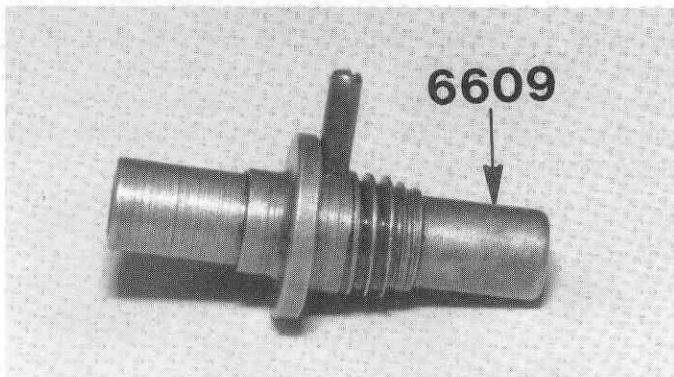

Fig. 27
□ **Fig. 27** In the #6-12 bag, take out the #6609 drive gear pivot. Also in the #6-12 bag is a small bag with screws. In this bag is a small split roll pin. This pin goes into the hole in the pivot as shown. Use a needle nose pliers to hold the pin and lightly tap it into the hole.